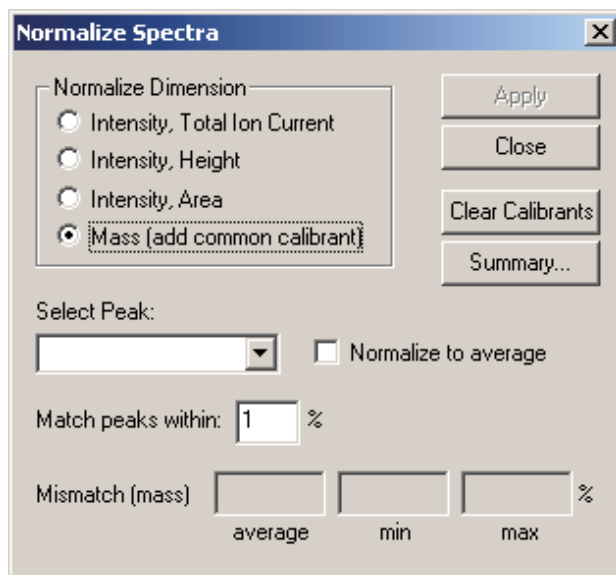

Figure 5-33: Using the *Normalize Spectra* dialog to normalize by mass.
4. Select **Mass (add common calibrant)** for the **Normalize Dimension**. The options in the lower half of the dialog will be as shown in Figure 5-33.